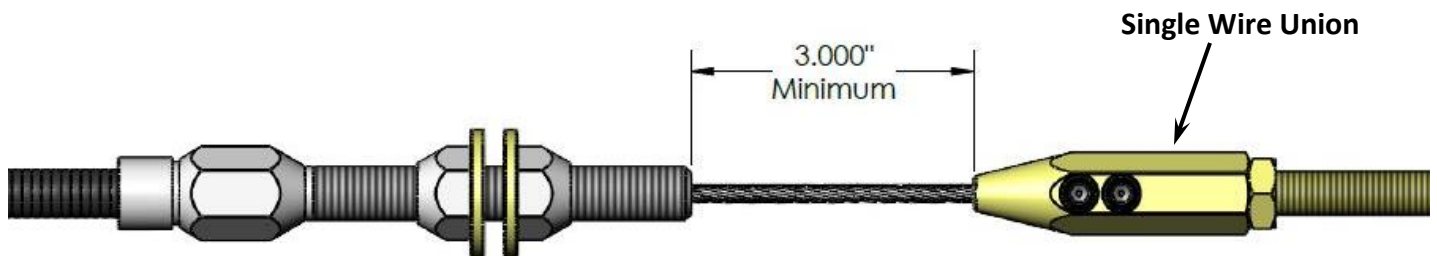

Figure 5 – Inner Wire Minimum Clearance Length
- With the inner wire extending past the cable adjuster, mark the wire to be cut. The wire will need at least 3.000" of total wire travel to allow for adequate movement of the park brake lever at the caliper. Refer to Figure 5 below for reference. **REMEMBER: Allow an additional 1.375" of wire length for insertion into the single wire union.**